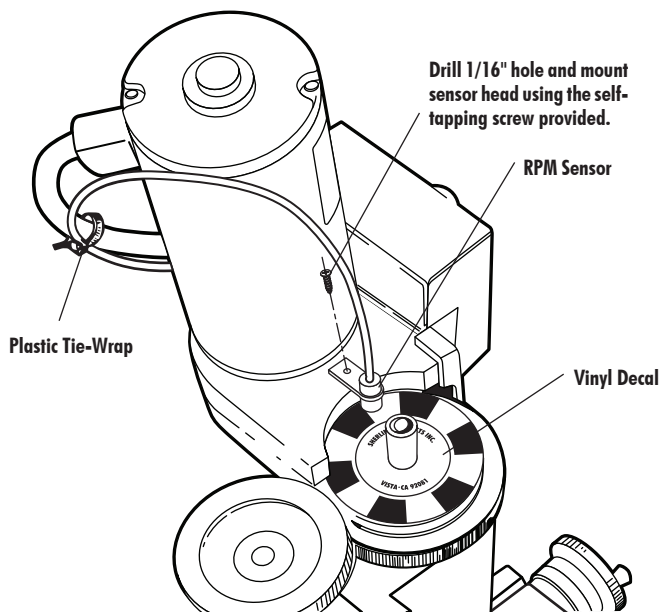

FIGURE 7—Mounting the sensor to the belt housing
- Locate the RPM sensor by holding it in the position shown in Figure 7. Mark the center of the hole on the plastic belt housing and drill a 1/16" hole. Fasten the sensor to the belt housing using the self-tapping screw provided. (Do not overtighten or you can strip the threads.) A plastic tie-wrap is provided to secure the sensor lead to the motor's power cord to keep it out of the way.